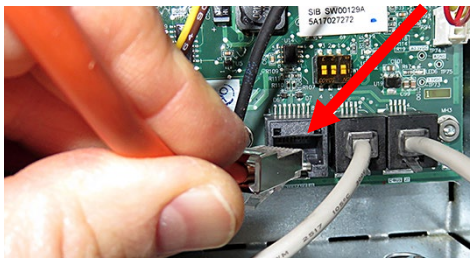

Figure 15
7. **Disconnect the RJ45 cable from the SIB board FIRST (see Figure 15).**